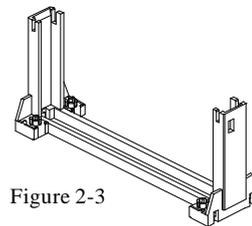

Figure 2-3
- Retention Mechanism (RM) - Plastic Guide with captive nuts that hold the S.E.C. Cartridge in the Slot1 connector. (Refer to Figure 2-3)